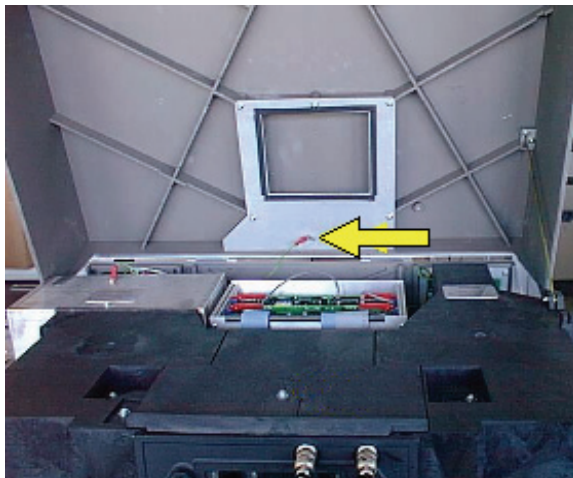

Figure 117 Unclipping the earth lead
6. Unclip the earth lead from the cover, as shown in Figure 117.